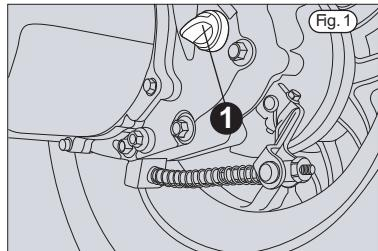

Fig. 1
Check the brake visually (fig. 1).
The lever of the rear drum brake is located on the handlebar l.h. side, and its play must not exceed 10 mm, Adjust if this value is exceeded. • Adjust the play by acting on register 1 (fig. 1) located under the rear end of the transmission.
(Fig. 1)
- Remove the brake caliper by unscrewing the 2 screws 1 (fig.1) fixing it to the fork. Extract the caliper from the disc.
- Put the odometer transmission (2) on the right side of the wheel by inserting the transmission tang in the seat on the hub wheel (see figure 1).